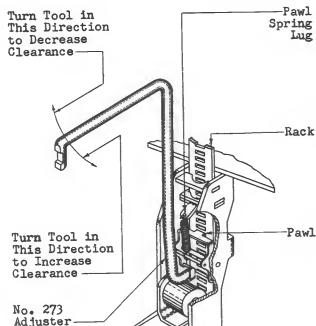

Fig. 24 - Adjusting Pawl Operating Lever
- (4) Adjust the pawl operating arm in the desired direction very slightly with the No. 273 adjuster as shown in Fig. 24.
- (5) In readjusting for these requirements, make an effort to keep the pawl as close as possible to the rack. To insure the best clutch operation and least pawl wear, make the pawl shoulders set against the face of the rack taking care, however, that the pawl clearance requirement is still met.
- (6) If difficulty is experienced in adjusting the pawl to meet the requirements recheck 2.15 (Unoperated Core Gap). If the unoperated core gap